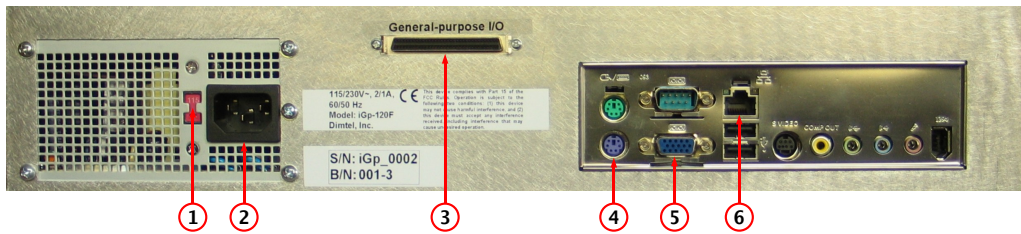

Figure 3: Rear panel features
WARNING: Before connecting power to the unit make sure the voltage selection switch (Fig. 3, item 1) is in the correct position (115 or 230 V).
1. Configure voltage selection switch (Fig. 3, item 1). Mains supply requirements for the iGp-200F are listed in Table 9;
7. Connect a PS/2 keyboard (Fig. 3, item 4);
8. Connect a video monitor (Fig. 3, item 5);
Setup program is included in the IOC for configuring the important features of the iGp-200F. The program can be executed locally or remotely. For local execution one must first connect a keyboard (Fig. 3, item 4) and a video monitor (Fig. 3, item 5) to the system. For remote setup, use `ssh` after system bootup to establish connection. In both setup methods the user must login as `root` (initial password is supplied with the system). If the newly received iGp-200F must be configured remotely (when, for example, a keyboard or a monitor is not available), such configuration can be performed using a dedicated network. Set up a network consisting of the iGp-200F, a network hub or a switch, and a remote computer. The iGp-200F is delivered with the following network configuration:
- Make sure no cable is connected to the general-purpose digital I/O port (Fig. 3, item 3);